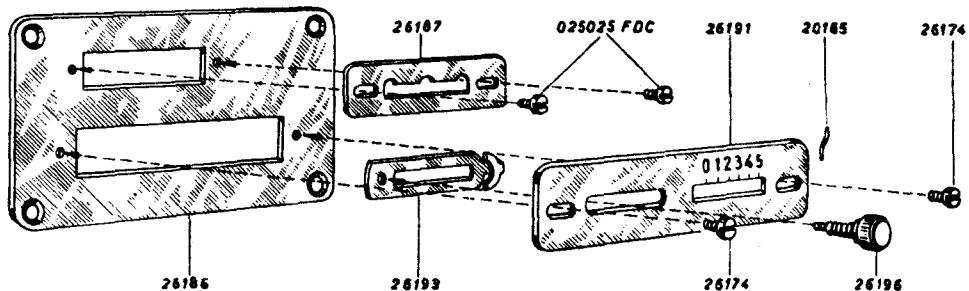

Fig. 70
hold the chromium finished plate No. 26191 (Fig. 70) to the plate No. 26186.
- Tighten the two screws No. 26174 (Fig. 70) firmly.
The japaned zig-zag stitch regulating plate No. 26186 (Fig. 70) is assembled with several chromium finished plates No. 26187, 26193 and 26191 which are fastened to the zig-zag stitch regulating plate at the factory and should not be removed subsequently. The adjustment of all parts in the upper group of the zig-zag mechanism is done in our factory during the production of the machines. There should, therefore, be no need for adjusting these parts in the course of regular maintenance service. However, should it be necessary (as in the case of repairs) to reassemble and time the aforementioned parts, proceed as follows: